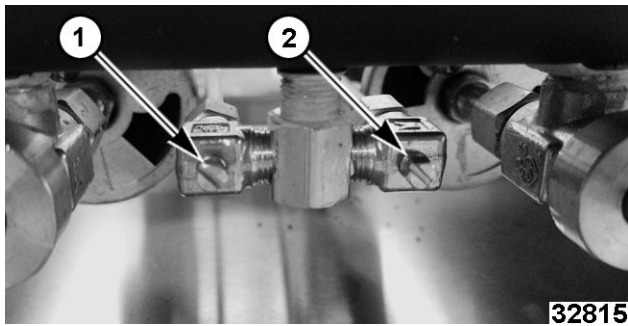

Fig. 109
- 3. Locate pilot adjustment screw (1-Rear, 2-Front, Fig. 109).